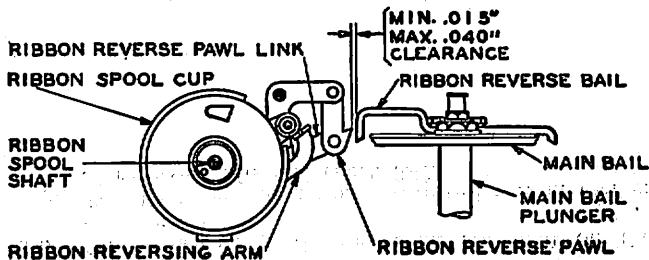

Fig. 23
3.48 Ribbon-reverse pawls shall clear the ribbon-reverse bail by Min. .015", Max. .040" when the associated ribbon-reversing arm is against its ribbon-spool cup. Fig. 23